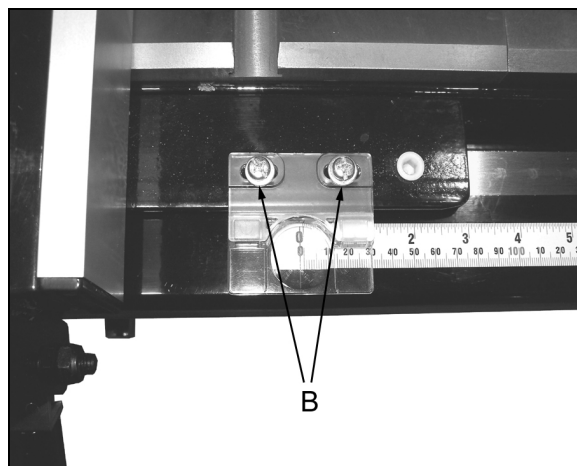

Figure 9
3. Looking at the right side scale reader, the red pointer should match up with the zero mark. If not, loosen the two screws, B, Figure 9 and slide the viewer to align the mark with zero. Tighten the screws.